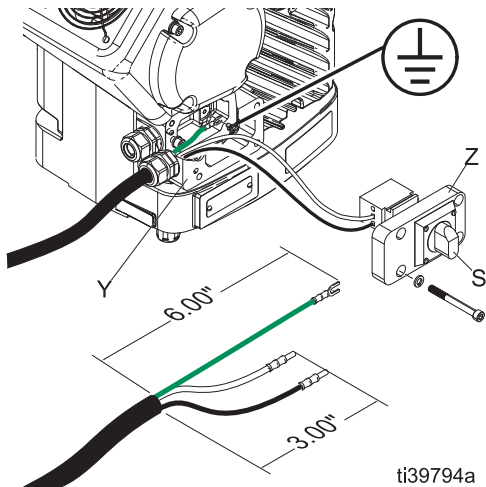

FIG. 1: Power Cord
- Add ferrules as necessary. See FIG. 1.
- Bring cord to unit and remove four screws to separate junction box cover (Z) with power switch (S) from junction box (Y). See FIG. 1.
- With junction box cover (Z) and power switch (S) detached from machine, wires inside junction will appear as below.